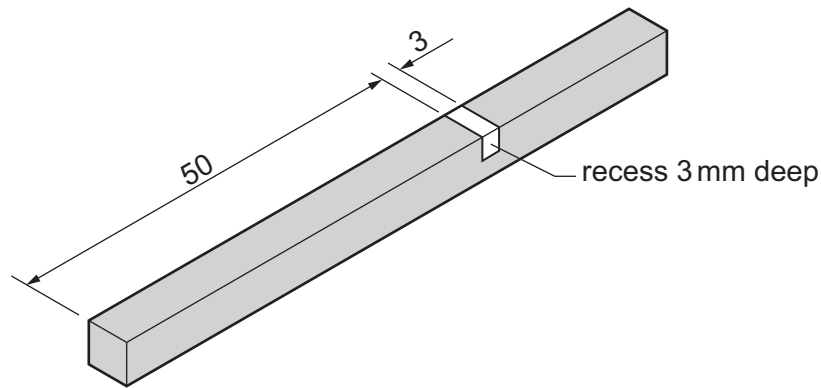

Fig. 13.8
- (ii) Fig. 13.8 shows one of the legs with the recess for the shelf marked out ready to be cut out. It is important that the recesses are cut out accurately in all four legs.